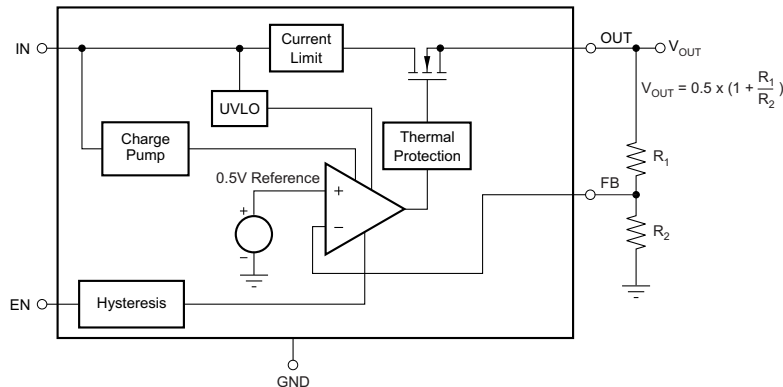

Figure 7. Adjustable Output Voltage Version
- (1) When setting  $V_{OUT}$  to a value other than 0.5 V, connect  $R_2$  to the FB pin using  $27\text{-k}\Omega \leq R_2 \leq 33\text{-k}\Omega$  resistors. See Figure 7 for details of  $R_1$  and  $R_2$ .
- (2) Accuracy does not include error on feedback resistors  $R_1$  and  $R_2$ .
- (3) TPS7A7002 is not tested at  $V_{OUT} = 0.5\text{ V}$ ,  $2.3\text{ V} \leq V_{IN} \leq 6.5\text{ V}$ , and  $500\text{ mA} \leq I_{OUT} \leq 3\text{ A}$  because the power dissipation is higher than the maximum rating of the package. Also, this accuracy specification does not apply to any application condition that exceeds the power dissipation limit of the package.
- (4)  $V_{IN} = V_{OUT} + 0.5\text{ V}$  or  $1.425\text{ V}$ , whichever is greater.
- (5)  $V_{DO} = V_{IN} - V_{OUT}$  with  $V_{FB} = \text{GND}$  configuration.